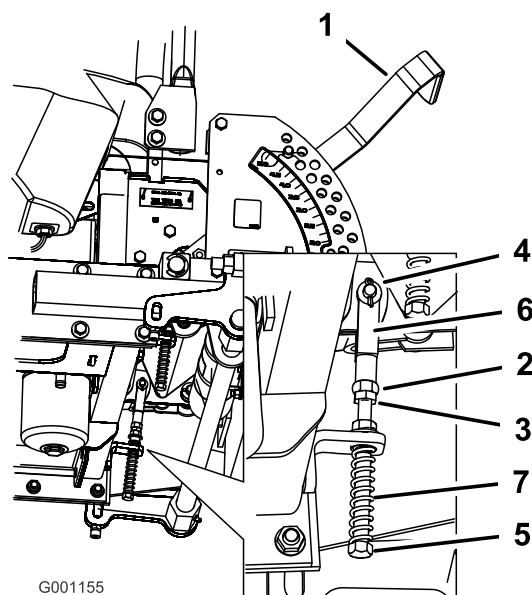

Figure 85
8. If adjustment is needed, loosen the nut and jam nut against the yoke (Figure 85).
- While applying slight rearward pressure on the motion-control lever, turn the head of the adjustment bolt in the appropriate direction until the control lever is centered in the NEUTRAL-LOCK position (Figure 85).
- Tighten the nut and jam nut (Figure 85).